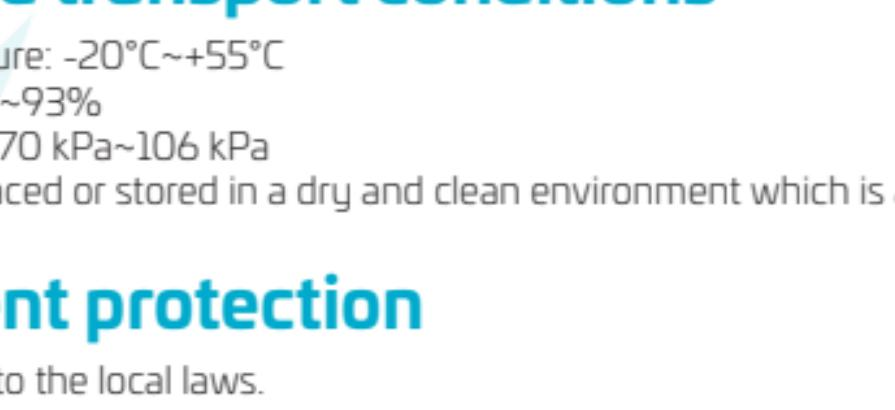

Fig. 15
- Insert the nozzle into the end of the contra-angle handpiece. Put a tissue on the head of the contra-angle handpiece and keep the contra-angle handpiece spraying for 2-3 seconds. Check whether the tissue is clean. If it is clean, the contra-angle handpiece can be autoclaved. If not, spray again until the tissue is clean. (Figure 15)